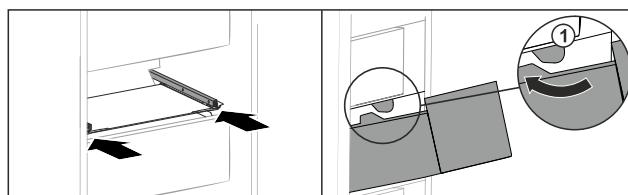

Fig. 159
- ▶ Guide drawer around the stoppers Fig. 159 (1).